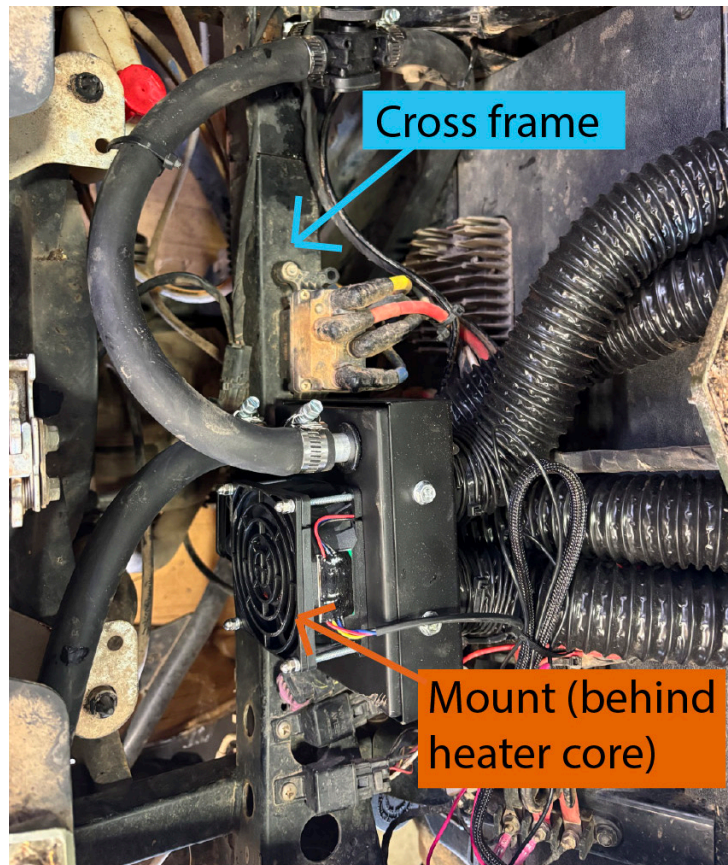

FIGURE 6
18. Connect the mount to the cross frame. FIGURE 6